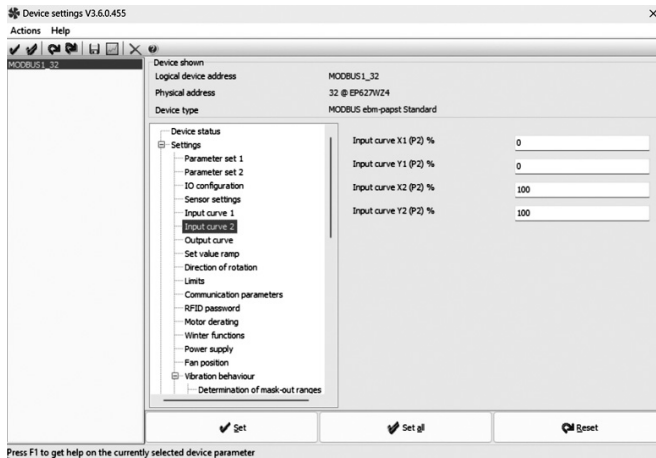

Fig. 19 — EC-Control Setting for Input Curve 2 for Full Speed Fan Operation
- Check that inputs match those of Fig. 19, where: